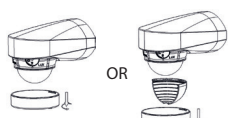
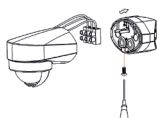

Figure 1
Figure 2
- Unload the cover near the detection window and adjust the TIME and LUX knob. If you need detection range less then 360°, you can install the plastic cover above the detection window. (refer to figure1). Unscrew the screw below the detection window and unload the bottom (refer to figure 2). Also unscrew the two screws at the bottom and unload the bottom into two parts. (refer to figure 3 )